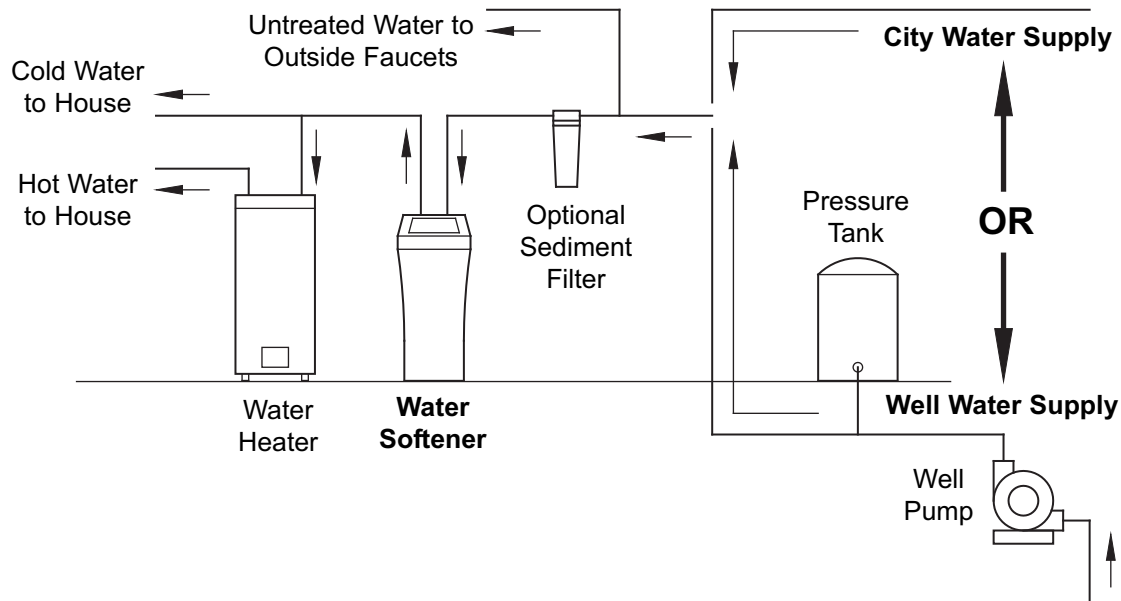

FIG. 6
- Always install the water softener between the water inlet and water heater. Any other installed water conditioning equipment should be installed between the water inlet and water softener (See Figure 6).